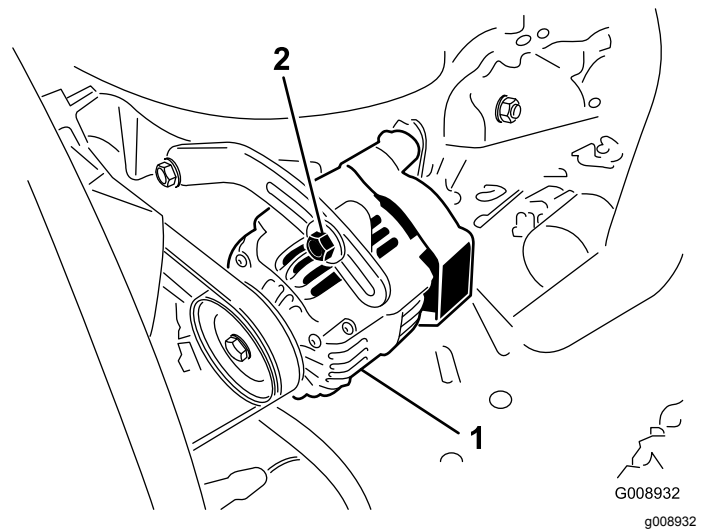

Figure 55
Check the condition and tension of the belts (Figure 55) after every 100 operating hours.
2. If the deflection is not 3/8 in. (10 mm), loosen the alternator mounting bolts (Figure 55). Increase or decrease the alternator belt tension and tighten the bolts. Check the deflection of the belt again to ensure that the tension is correct.